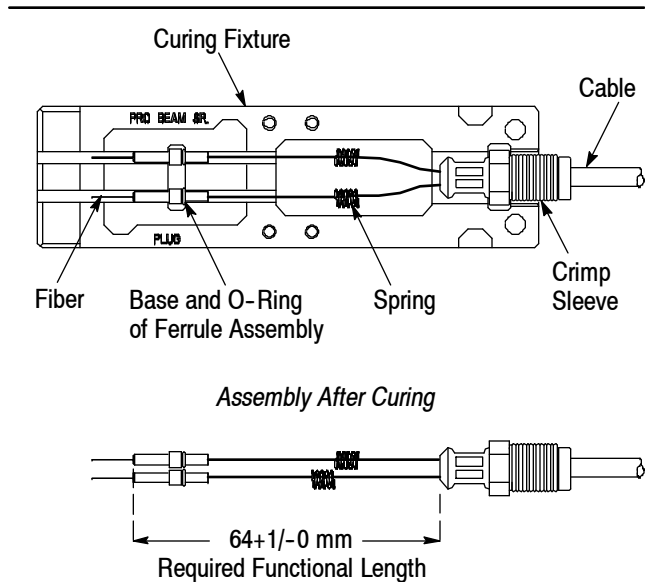

Figure 7
16. Remove the assembly from the curing fixture according to 408-8857. Measure the assembly to make sure that it conforms to the dimension given in Figure 7. If it does not, re-strip and re-terminate the fiber.